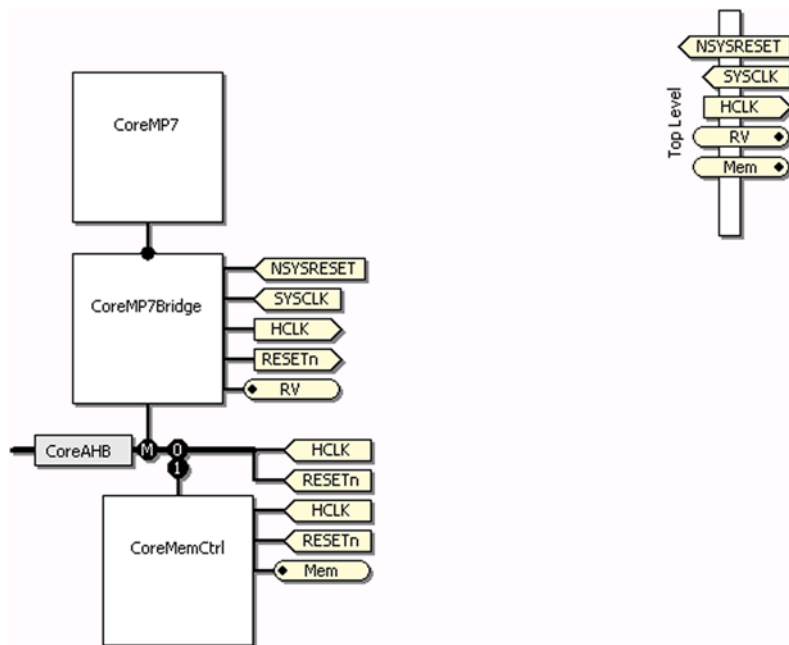

Figure 5-10. CoreConsole Schematic after Connecting the External Memory Interface
14. Click **OK**. Your schematic should resemble the one in Figure 5-10.